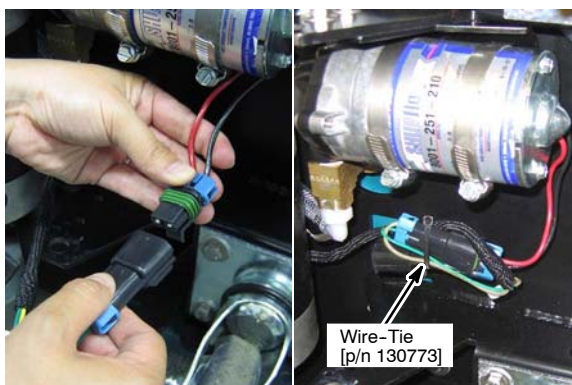

Fig. 38
6. Plug the pump wire connector into the *ec-H2O* wire harness. Secure the wire connection and capacitor plug to the machine frame with a wire-tie as shown (Figure 38).